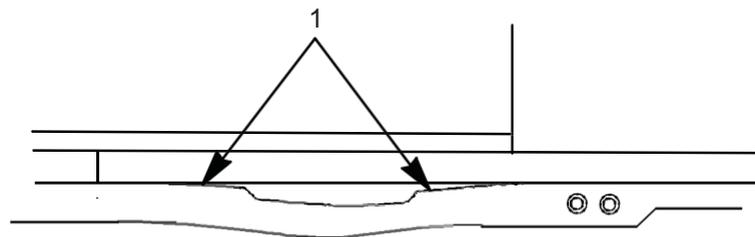

Figure 7. Separation of Cocking Handle Channel.
- a. Inspect for separation of cocking handle channel (Figure 7, Item 1) from the receiver side wall.